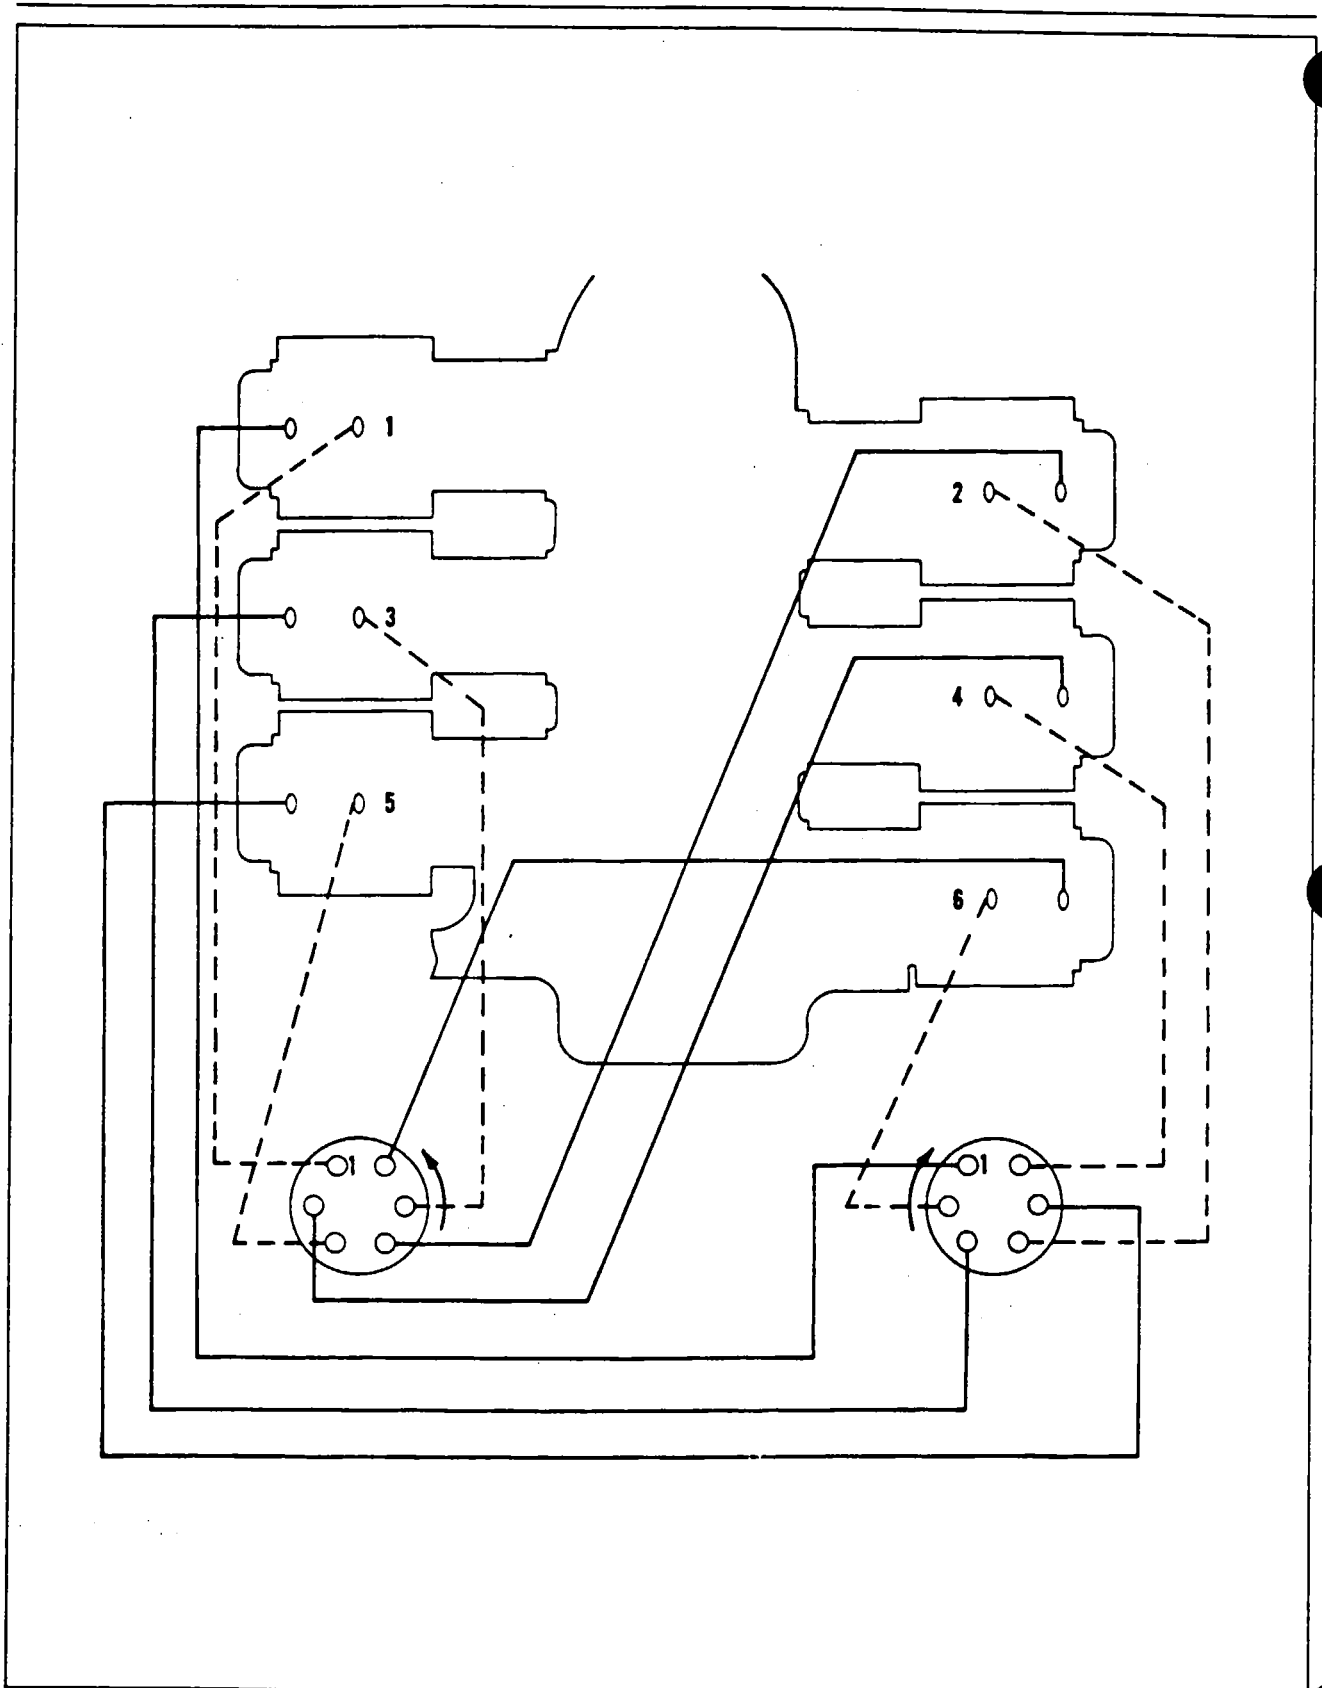

Figure 8-33: Ignition System Schematic
- b. Route ignition wires to their respective cylinders as shown in Figure 8-33.